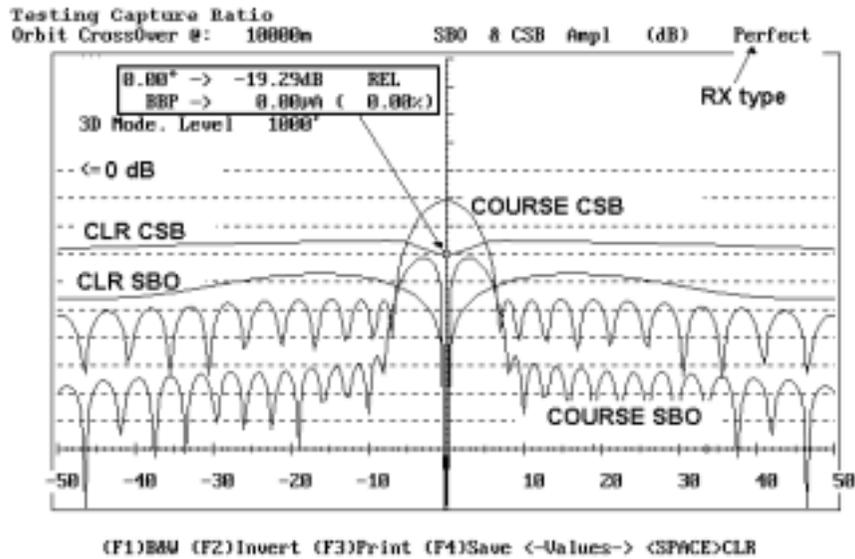

Fig. ORB 706 Using the cursor to measure the computed Capture Ratio (The amplitude ratio between the Course and Clearance CSB signals on the center line).
3. Use the <Up/Down> keys to move the cursor to the CLR CSB curve. The computed value (19.29dB) can be read in the field shown in the figure ORB 706.